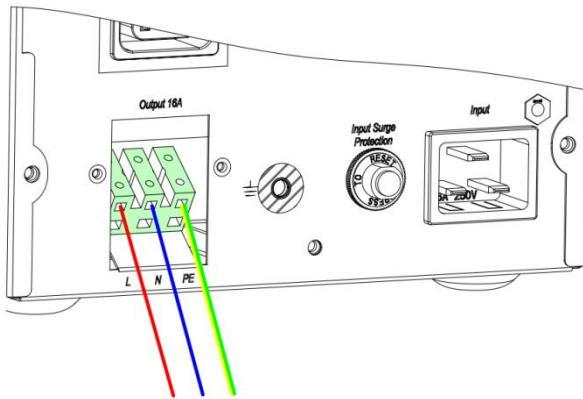

Fig.3 Output terminal of 3kVA
- 2). Use AWG14 wires for terminal wiring configuration as fig.3.